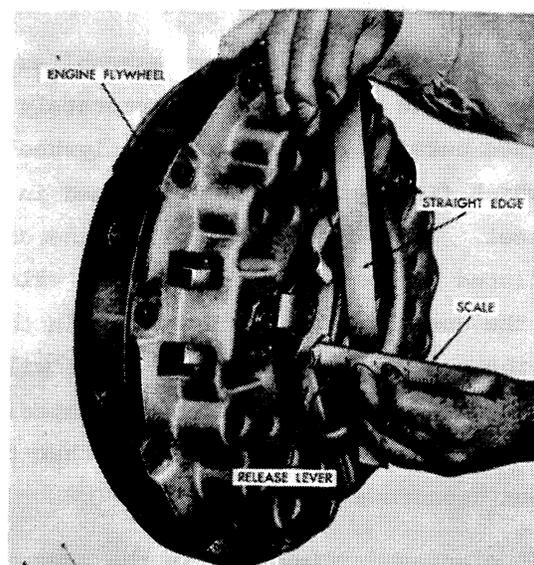

Fig. 5
4. Release levers must be adjusted for height. This can be accomplished by placing a straight edge across the cover assembly and measuring from the end of the lever to the straight edge. See Figure 5. This dimension for the G-125 is 1-1/16", and for the D-118 and D-145 the measurement should be 29/32". Adjusting the lever height is facilitated by starting with the levers low and with the lock nut just snug. Turn the adjusting nut and the lock nut as a unit clockwise until the lever is raised to the desired height. Then hold the adjusting nut firmly with a suitable tool and tighten lock nut securely.